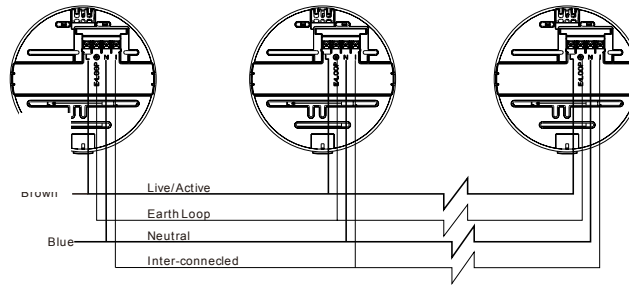

Fig. 5 – Interconnect wiring
7. Where interconnection to other ZT-MH AC/DC heat alarms is used, install the interconnection wiring as shown in Fig. 5.